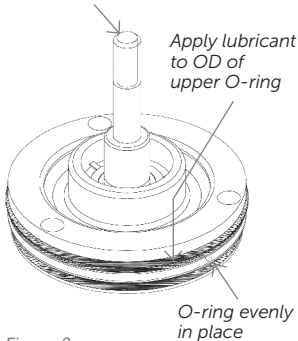

Figure 2.
2. Begin assembly by applying a light coating of lubricant (S1) to the diaphragm/retainer assembly (P6) O-ring (see Figure 2).
3. Make sure the O-ring between the diaphragm and retainer is evenly in place, (See Figure 2) and then install the diaphragm/retainer assembly (P6) in the valve body and push the retainer all the way down.